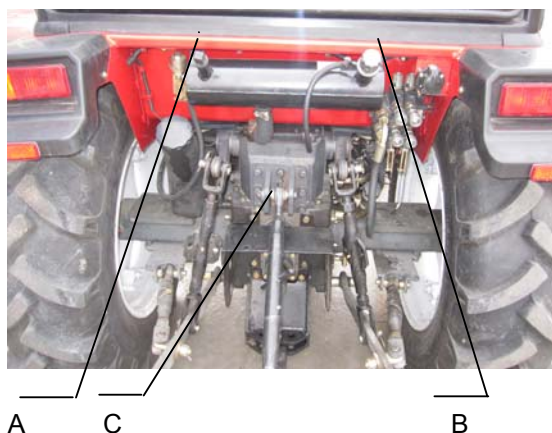

Figure 4-19 Lifter Maintenance
- Unscrew the oil dipstick (A) on the hydraulic auxiliary tank located above the lifter (as shown in Figure 4-19). If the oil level does not reach the lower scale mark, oil should be added.
- To replace the lubricating oil, unscrew the oil drain plug (C) located under the lifter. Drain out the dirty oil into a drip pan. Then, reinstall the plug, and add new oil through the refill opening (B).